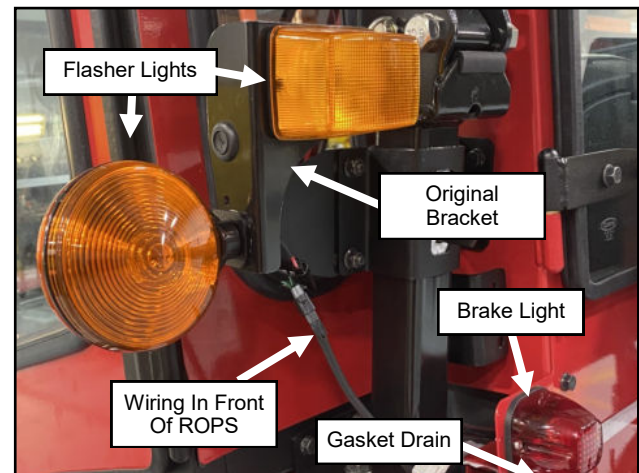

Fig. 23.1 (Mount Rear Lights)
- 23.1 Mount the left flashers and original bracket (in orientation shown) to the new location on the ROPS clamp, and mount the left brake light to the new location on the lower cross panel. Make sure the drain hole on the brake light gasket is on the bottom. See Figure 23.1.